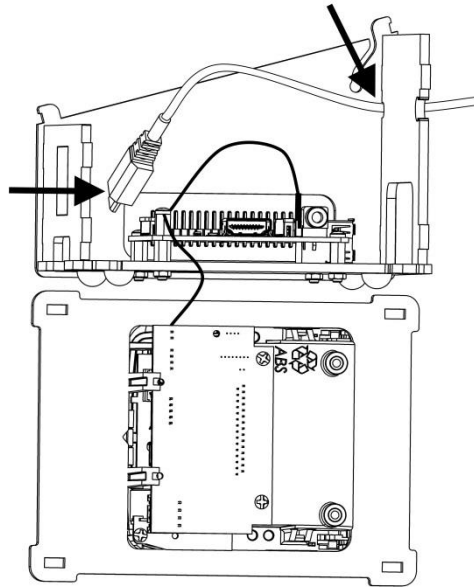

Figure 8
- 13) **Lay the unit on its side** and offer-up the back plastics to the rear of the assembly as shown in *Figure 8*. **Note the orientation of the large and small notch.** Locate the Mini-B USB Data lead cable into the small left hand notch on the back plastics. The Mini USB connector should have sufficient slack for the connector to reach the front-right of the unit.